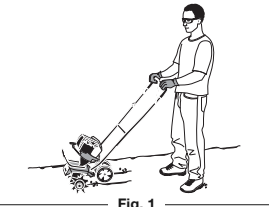

Fig. 1
4. While holding the upper handle with both hands, slowly lower the cultivator until the tines make contact with the ground (Fig. 1).